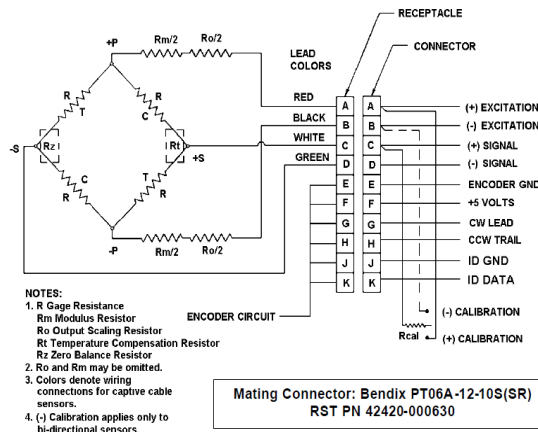

Figure 1—Hand Torque Wrench Wheatstone Bridge With Angle Wiring Code
Hand Torque Wrenches manufactured by RS Technologies Division of PCB Load & Torque, Inc., are designed to accurately measure static torsional loads ranging from 2.0 lb-in up to 600 lb-ft (0.23 to 814 Nm). All models utilize strain gages configured into a Wheatstone Bridge Circuit to produce the primary sensing element. The four-arm Wheatstone Bridge configuration is shown below in **Figure 1**. Also pictured in **Figure 1** is the wiring code for the standard 10-pin PT receptacle.
Shunt calibration simulates the mechanical input to a transducer by unbalancing the bridge with a fixed resistor placed across, or in parallel with, one leg of the bridge. For clockwise shunt calibration, or +CAL, the shunt resistor (R_{CAL}) is shunted across the +Excitation (A) and +Signal (C) leg of the bridge. For counterclockwise shunt calibration, or -CAL, the shunt resistor (R_{CAL}) is shunted across the -Excitation (BD) and +Signal (C) leg of the bridge. See **Figure 1** for shunt resistor locations in the Wheatstone Bridge circuit.